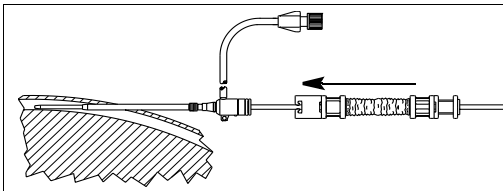

Fig. 5
22. Hold proximal hub of catheter contamination shield in place. Disengage distal hub from inner feed tube by pulling forward. Advance distal hub forward toward hemostasis valve/side port assembly. Hold assembly in place (refer to Fig. 5).